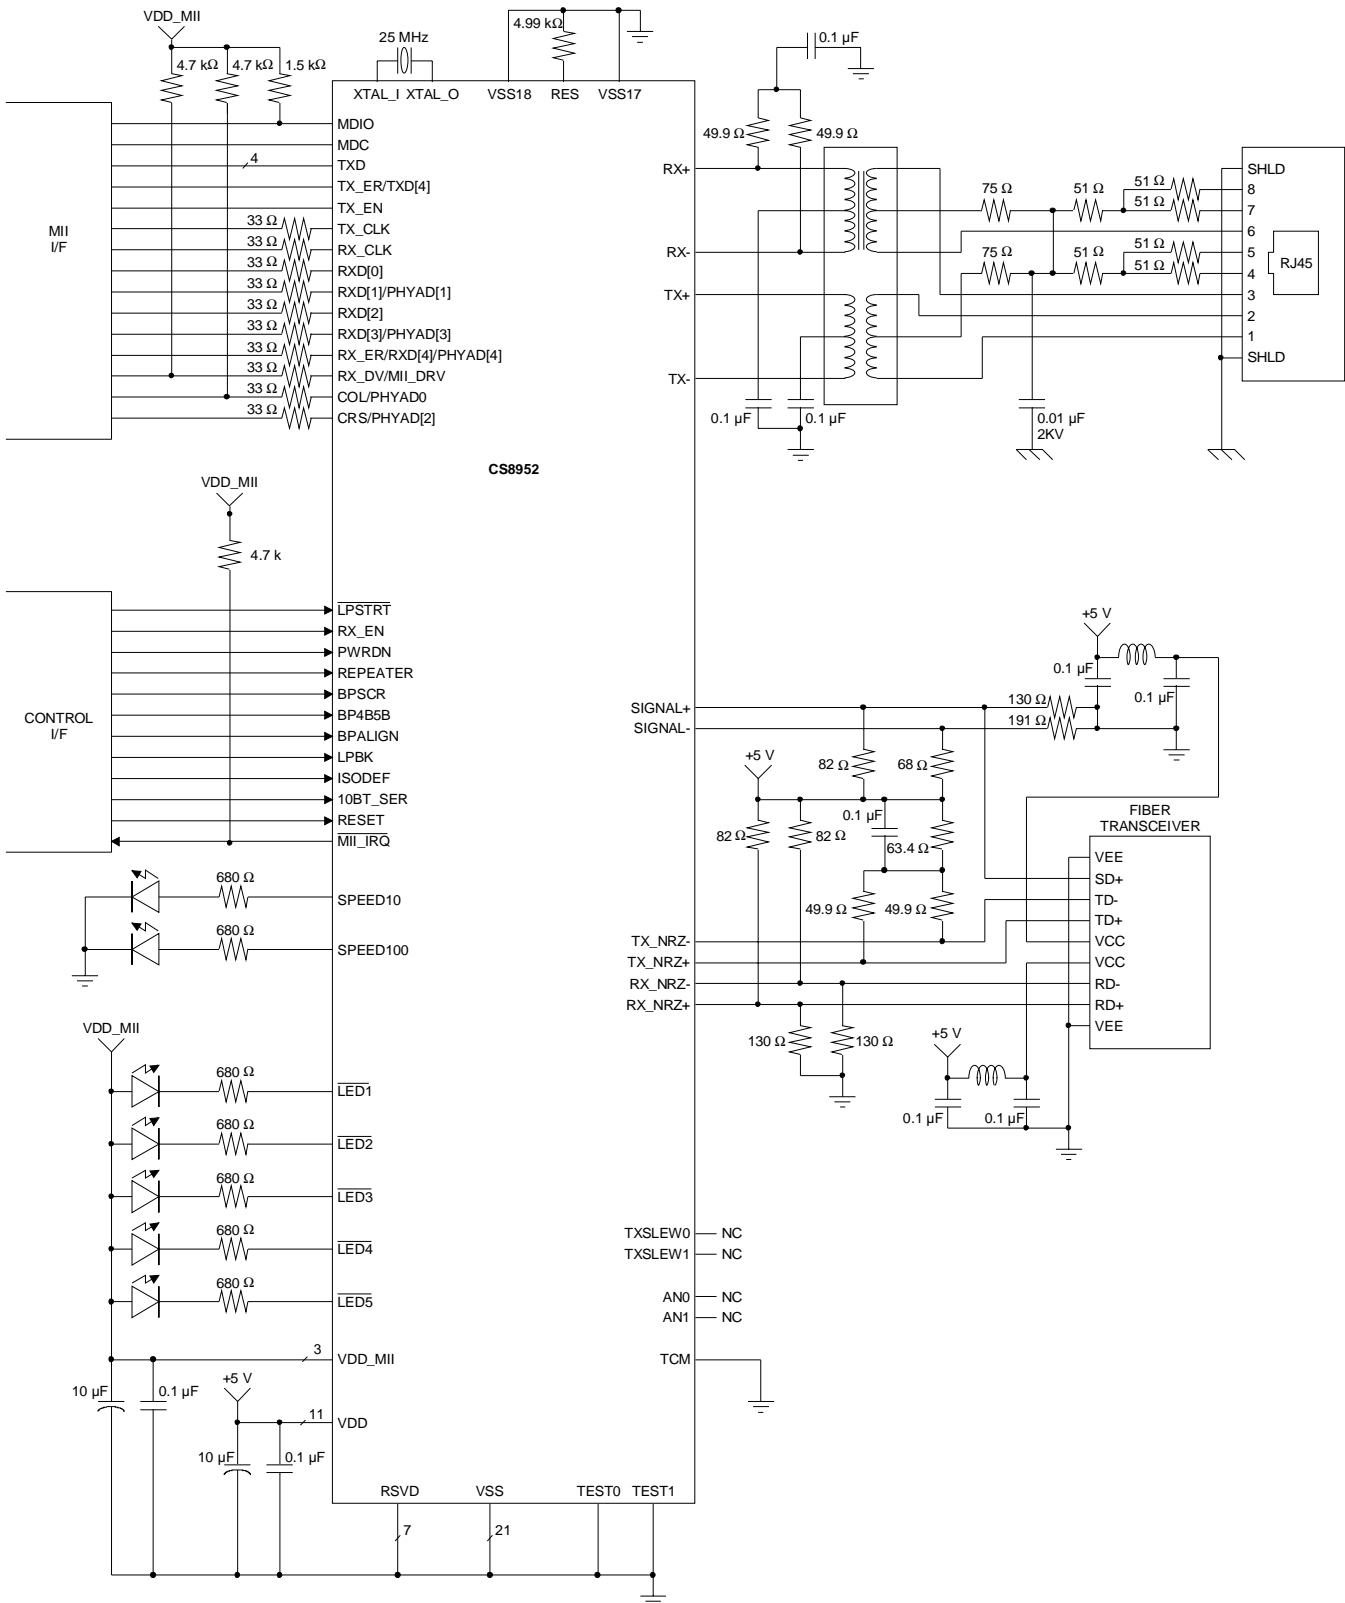

Figure 1. Typical Connection Diagram
**Figure 1** illustrates a typical MII to CS8952 application with twisted-pair and fiber interfaces. Refer to the Analog Design Considerations section for detailed information on power supply requirements and decoupling, crystal and magnetics requirements, and twisted-pair and fiber transceiver connections.
Pin BPALIGN causes more of the CS8952 to be bypassed than the BP4B5B pin. BPALIGN also bypasses the scrambler/descrambler, and the NRZI to NRZ converters (see Figure 1). Also, for repeater applications, pin REPEATER should be asserted to redefine the function of the CRS (carrier sense) pin. The REPEATER function may also be invoked by setting bit 12 in the PCS Sublayer Configuration Register (address 17h).